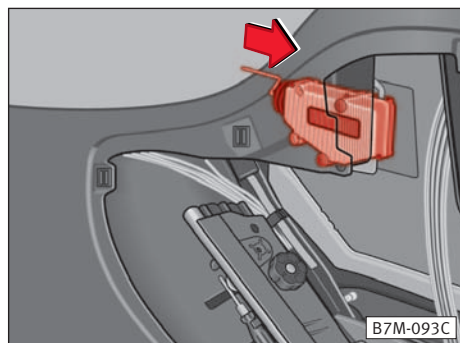

Fig. 150
- Then push the locking rod in front of the white diaphragm housing backward slightly in direction of arrow ⇒ **fig. 150**. ■